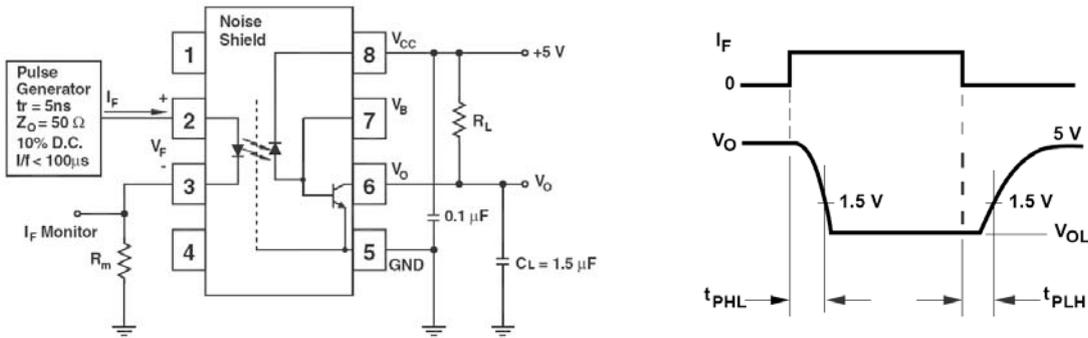

Figure 1: Single Channel Test Circuit for t_{PHL} and t_{PLH}
1. A $0.1\mu\text{F}$ or bigger bypass capacitor for V_{CC} is needed as shown in Fig.1